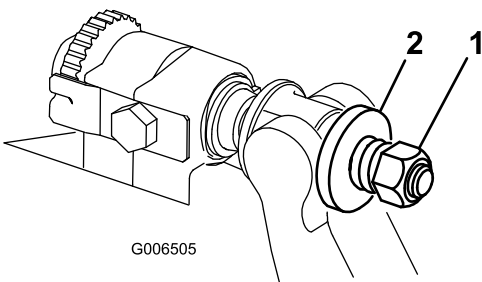

Figure 39
4. Tighten the spring-tension nut until the spring is collapsed, then back off 1/2 turn (Figure 39).